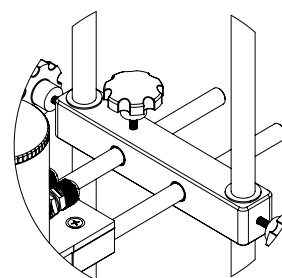

Fig. 13 : Connection Guide
- Secure the position using a tightening knob fig.13.